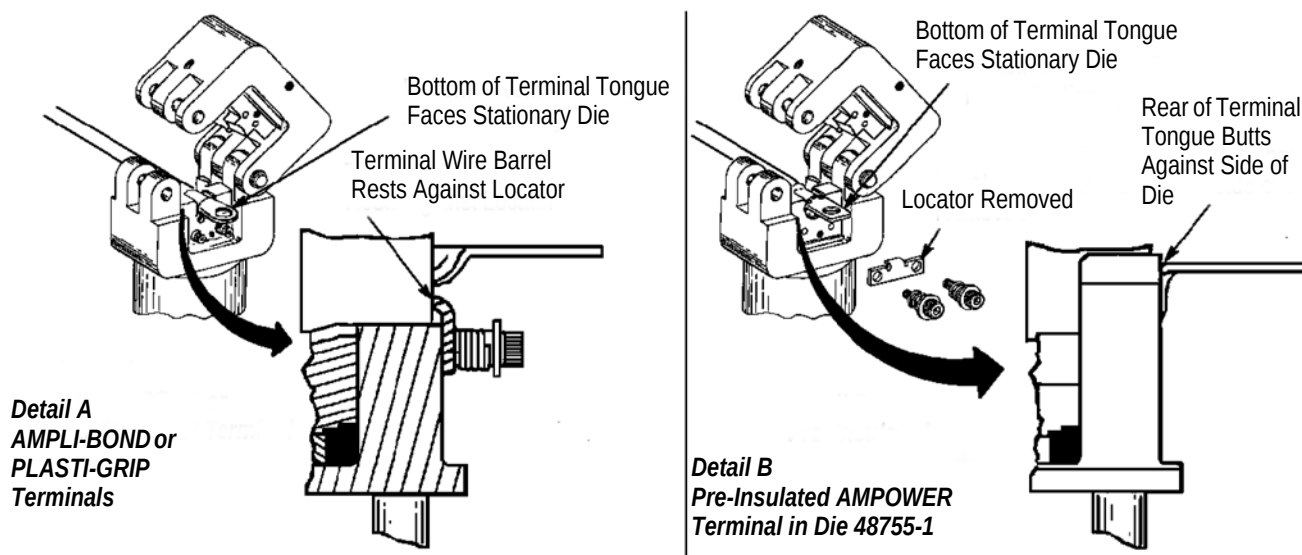

Figure 3
3. With yoke open, place terminal on dies. See Figure 3, Detail A. Bottom of terminal tongue should face stationary die and terminal wire barrel should rest against spring-loaded locator.
NOTE *When crimping pre-insulated AMPPOWER terminals in die 48755-1, it will be necessary to remove the locator. Position the terminal in dies as shown in Figure 3, Detail B. Bottom of terminal tongue faces stationary die and rear of terminal tongue butts against the side of the die.*